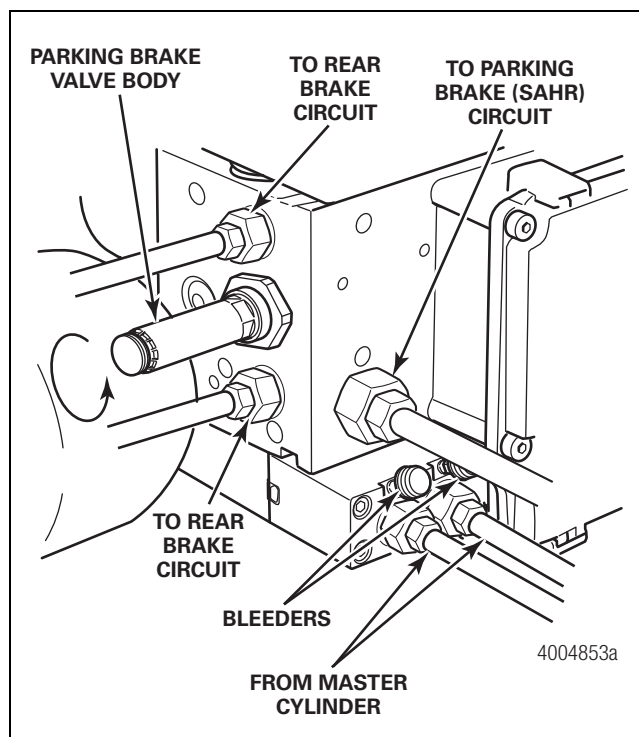

Figure 4.56
10. Use a socket, Snap-On Tools part number A121, to remove the pressure supply valve from the hydraulic compact unit. Figure 4.56.